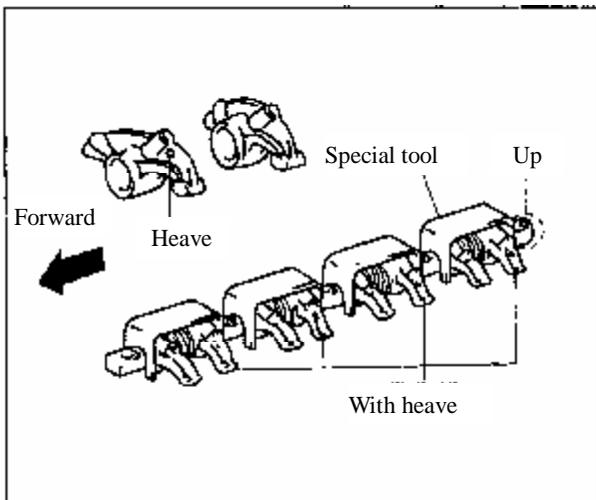

Figure 3-17 Installation of Valve Rocker Arm
(3) Make sure the direction of rear end boss (valve rocker arm shaft) is correct, and follow figure 3-17 to assemble valve rocker arm and spring. Use special tools to install and clamp during assembly.